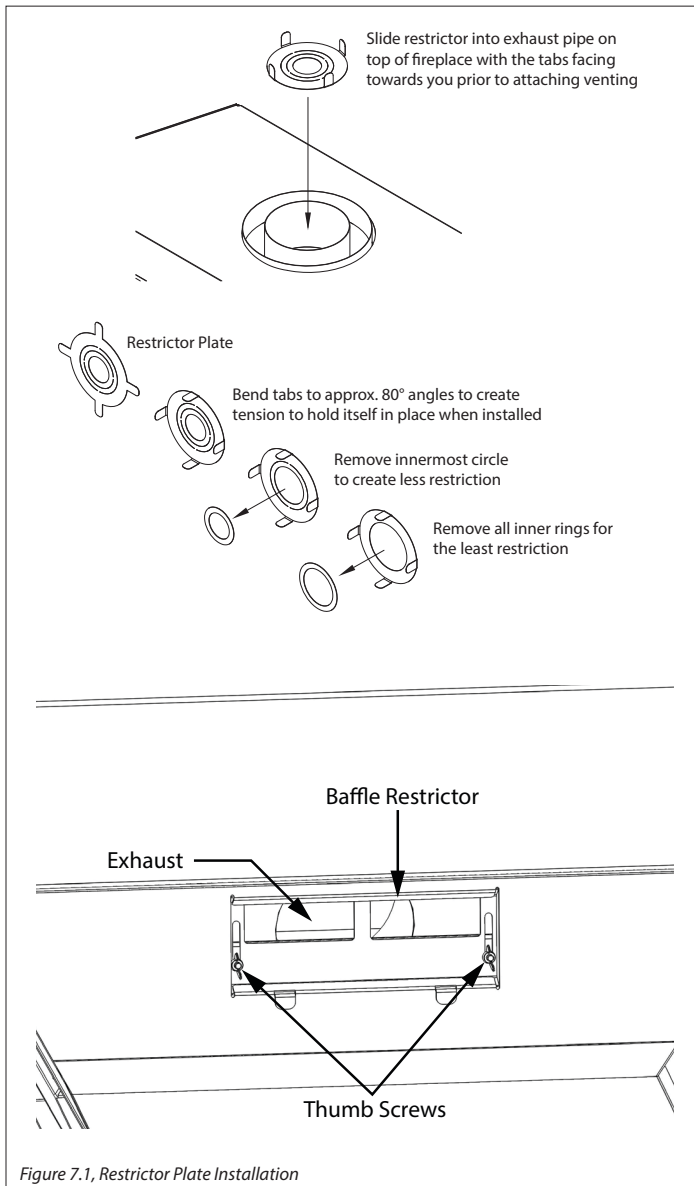

Figure 7.1, Restrictor Plate Installation
Follow Figure 7.1 for restrictor plate installation before attaching venting or through the baffle restrictor if venting is already attached. If you are adjusting the baffle restrictor, loosen the (2) thumb screws to adjust the setting to achieve desired flame appearance.